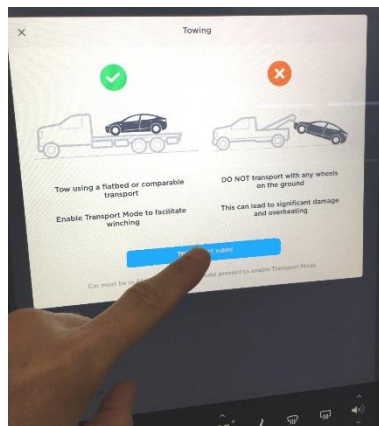

Figure 5 (Activate Transport Mode)
4. Press and hold the brake pedal, then on the vehicle touchscreen, touch Controls (vehicle icon), touch Service, touch Towing, and then touch and hold the Transport Mode button until it turns blue to activate Transport Mode (Figure 5).